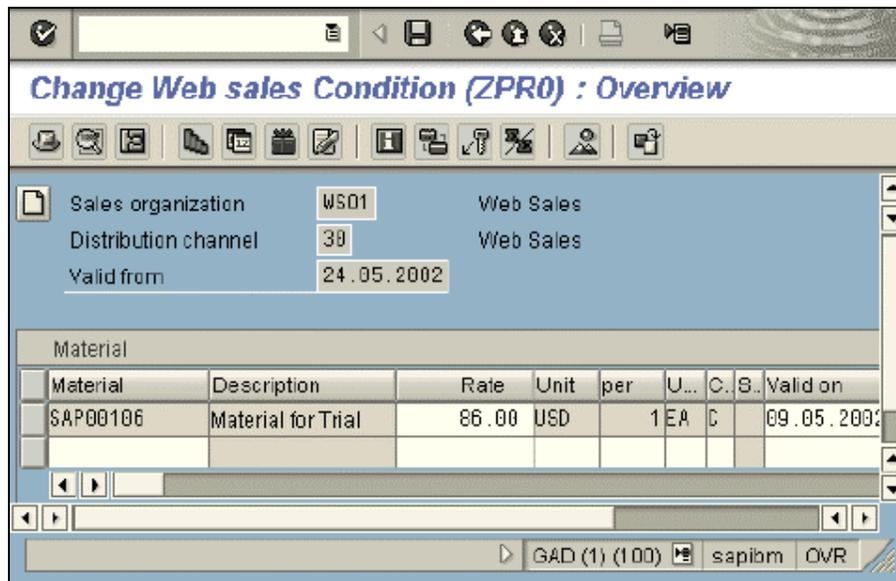

Figure 46: Creating the Web sales condition
- a. Select the last table and press enter. Make the required entries as shown in Figure 46 and save the records.